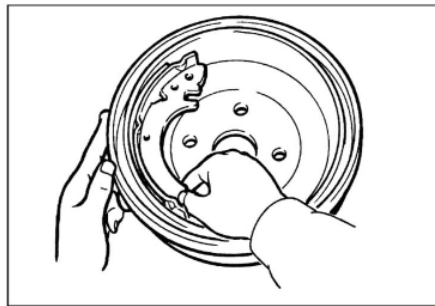

Fig. 16-25
- (1) Remove the brake drum , the shoe and lining assembly (see Fig 16-25)。
- (2) Chalk inner surface of brake drum and rub with shoe and lining assembly
- (3) Replace shoe and lining assembly or brake drums if very irregular contact area
- (4) Clean off chalk after check.
- (1) Connect the multimeter to the stop lamp switch connector.
- (2) The stop lamp switch is in good condition if there is no continuity when the plunger is pushed in to a depth shown Fig.16-25 from the outer surface and if there is continuity when it is released.